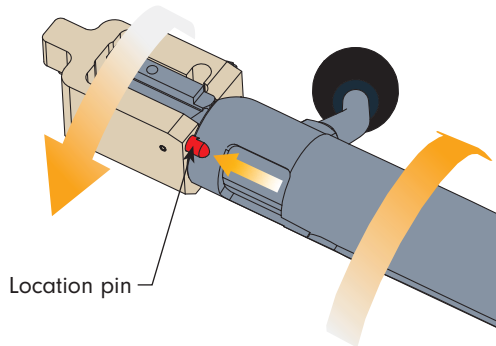

Fig 3-5
- Press the bolt location pin with the right thumb and rotate the shroud, as shown in Fig 3-5, until the assembly can be withdrawn.